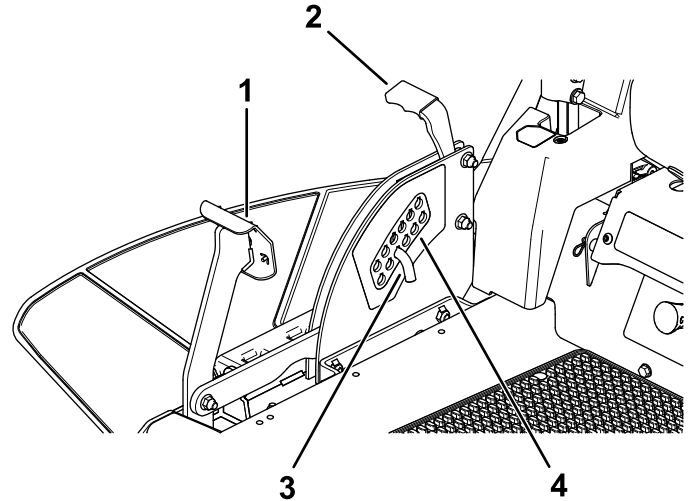

Figure 28
3. Select a hole in the height-of-cut system corresponding to the desired height of cut and insert the pin (Figure 28).
1. Push on the deck-lift pedal with your foot and raise the mower deck to the transport-lock position (also the 114 mm (4-1/2 inch) cutting height position) as shown in Figure 28.
2. To adjust, remove the pin from the height-of-cut bracket (Figure 28).